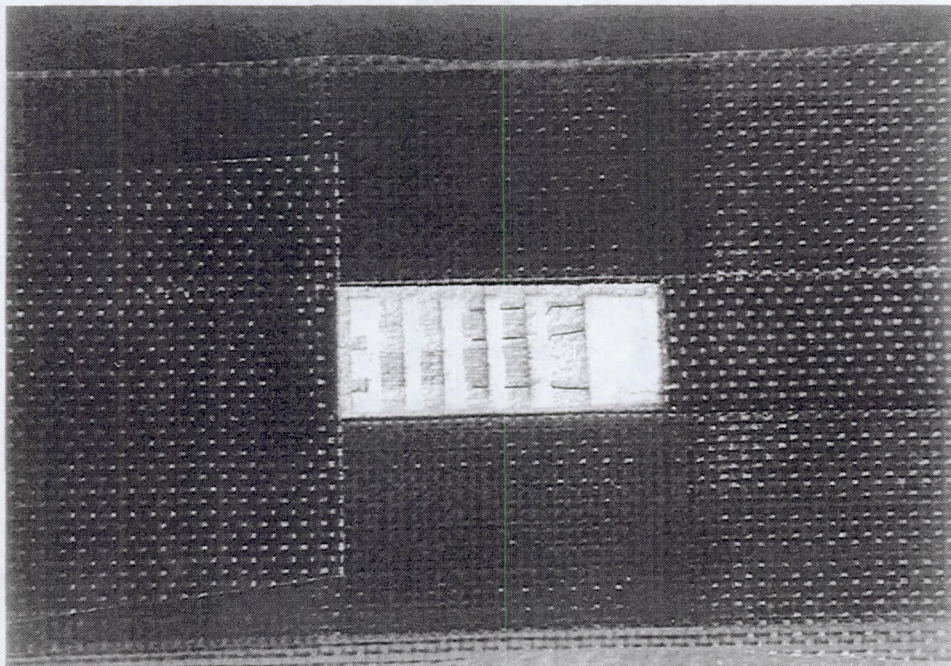

FIGURE 11. Gage perimeter masked in preparation for final coating.
- Figure 11. Gage perimeter masked in preparation for final coating.